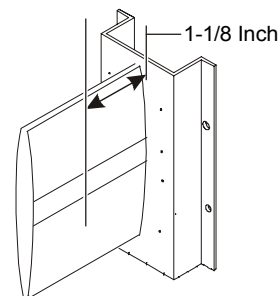

Figure 16: Airfoil Blades
- Airfoil Blades--Measure 1-1/8 inches from the end channel, as shown in Figure 16, and drill on the lines etched in the blade.